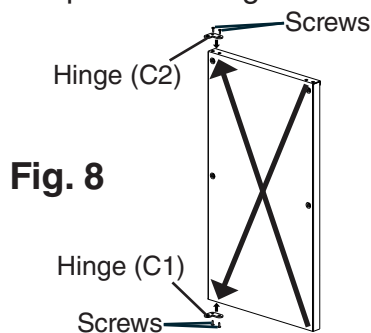

**Fig. 6**
d) Remove hinge (B) from the right side of the unit and the 2 filler screws from the left side. Attach the 2 filler screws to the right side and attach hinge (B) to the left side. See Fig. 6.